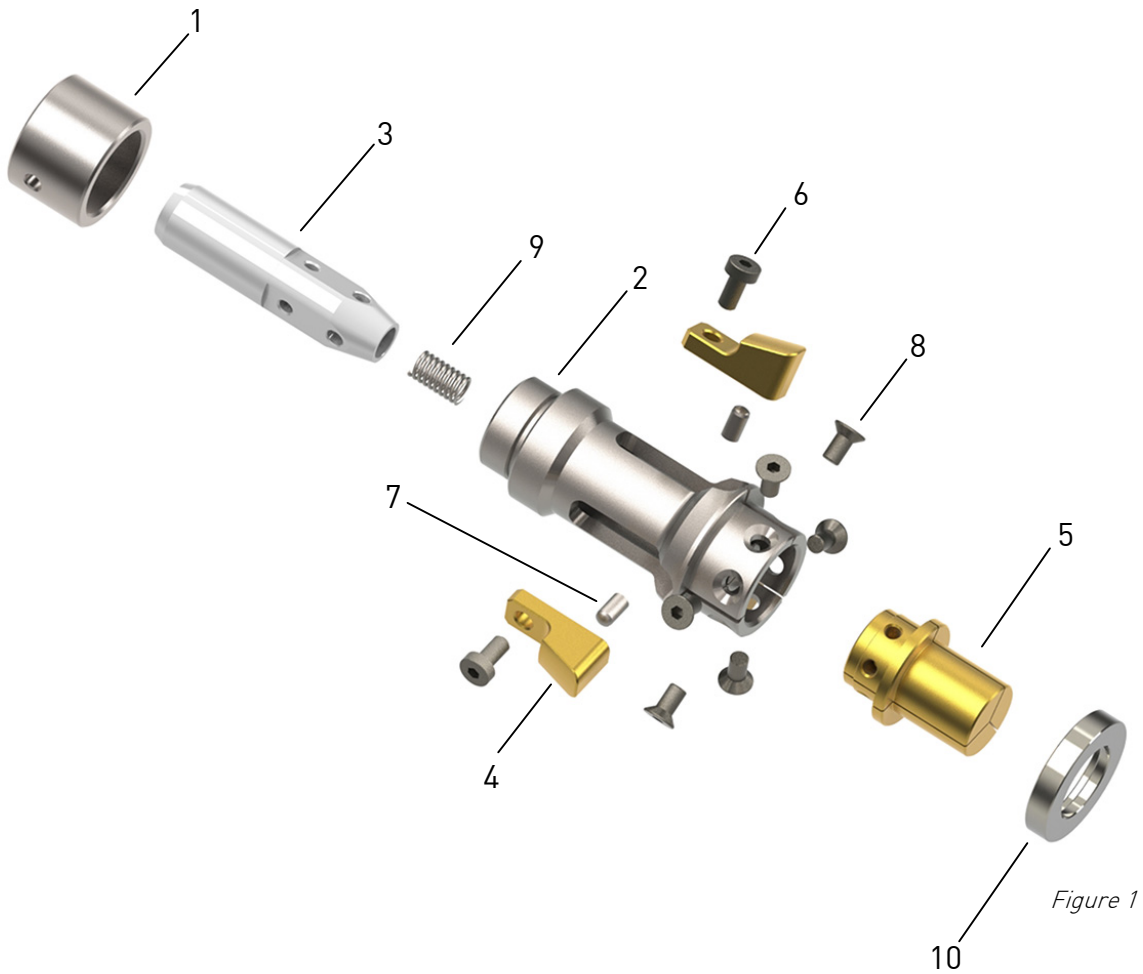

Figure 1
WIBEMO is not responsible for any out-of-round problems with finished hardened jaws if the retaining screws (8) *(figure 1)* have been loosened.
- 2) Dismantle the blank jaws from the body by unscrewing the 6 jaws retaining screws (8) (*see figure 1*)